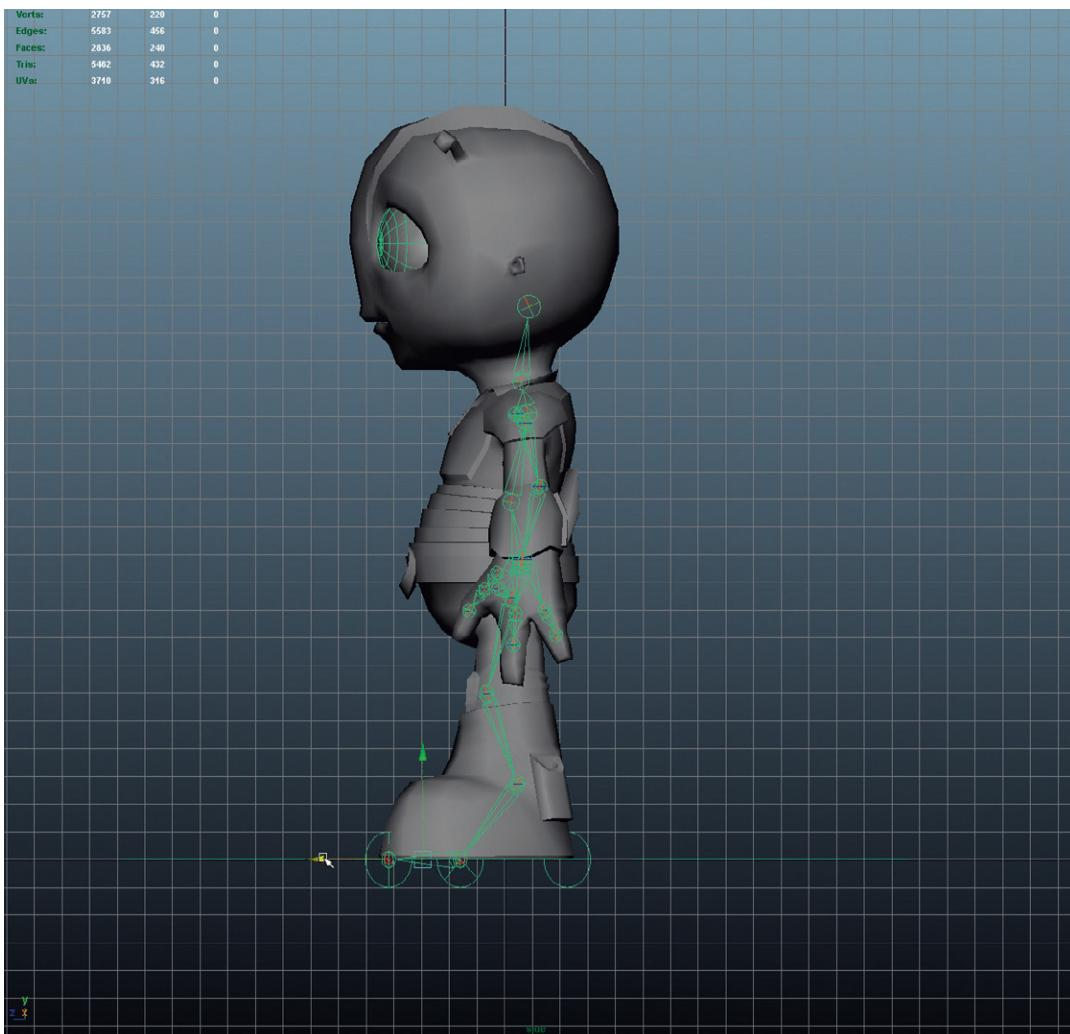

FIG. 9.27 Moving the alien into place by using the big C.
Step 4: Position the alien. Select the big C (or whatever your letter is) and move the alien so that his root is about at Z = 0 (Fig. 9.27).